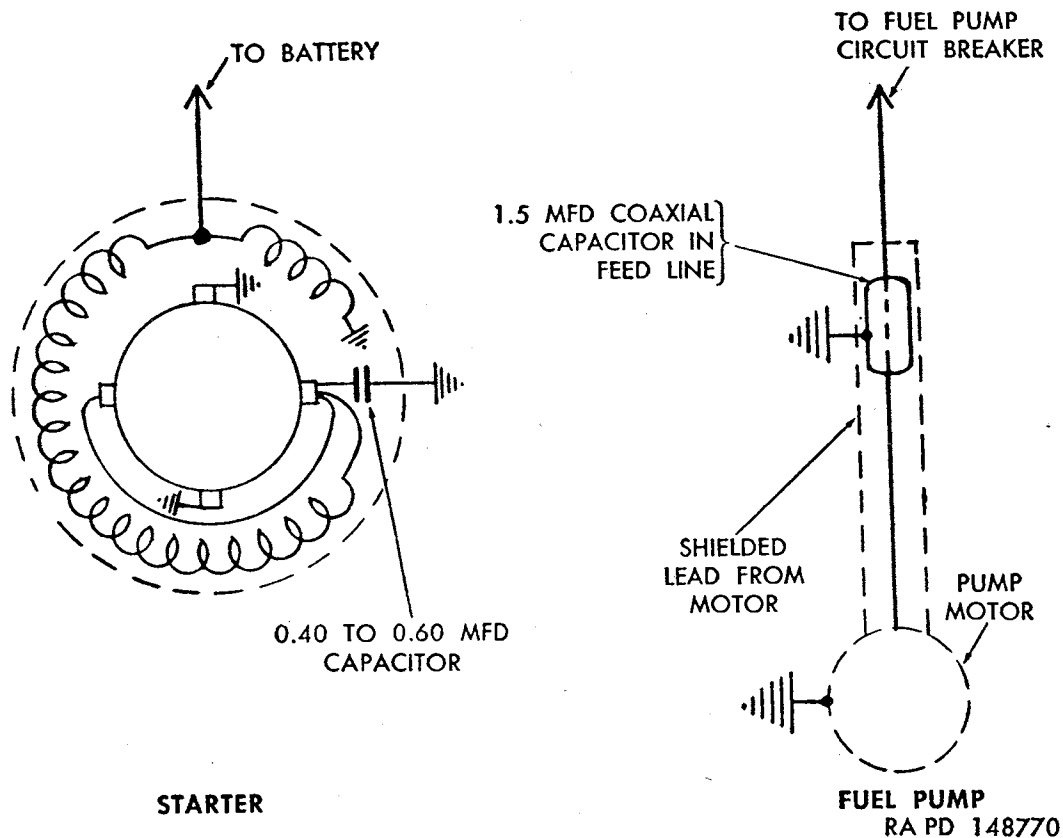

Figure 182. Schematic circuit diagram of starter and fuel pump radio suppression units.
a. *Description and Data.* Starter series field windings and insulated brushes are grounded to commutator end head through a 0.40 to 0.60 mfd capacitor (fig. 182). Capacitor (fig. 146) is mounted on commutator end head and is grounded through its mounting.
(fig. 182)